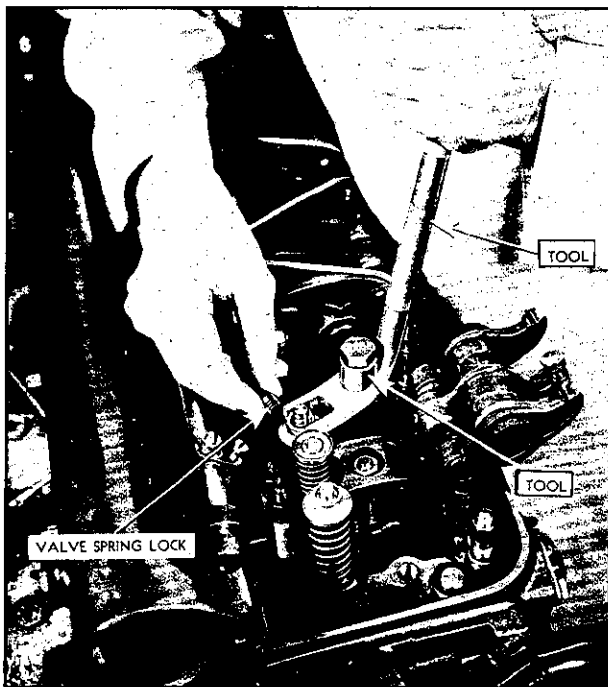

Fig. 4—Compressing Valve Spring to Remove Lock.
5. Slip one of the cap screws through valve lifter bushing and valve lifter, as shown in Fig. 4, and insert this cap screw into the tapped hole of the cylinder head adjacent to the valve spring to be removed.
2. Place the cylinder head on the work bench right side up, with the valve heads resting on a 2" thick block of wood, and release the valve spring by removing the tapered seat lock with special tool shown in Fig. 4. The 2" thick block is used to protect the valve followers which project through the lower side of the cylinder head.